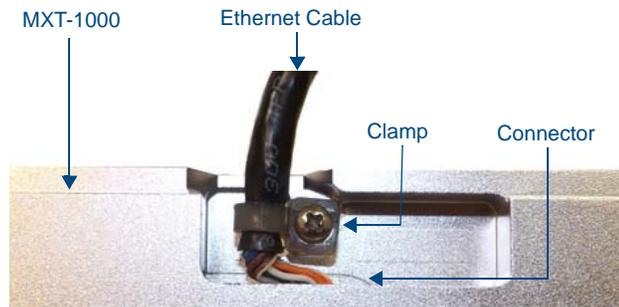

FIG. 11 Bottom of the MXT-1000
In installations where concealing the Ethernet cable is desired, a hole at least 1.00" (2.54 cm) in diameter is required in the surface to allow passage of the female RJ45 connector (FIG. 11).
2. Remove the clamp holding the Ethernet cable (FIG. 11).